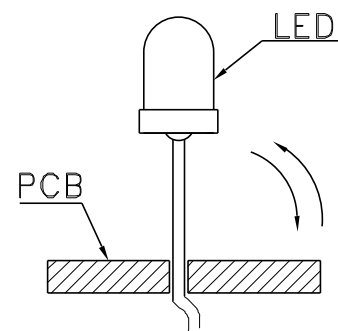

Fig. 8
- 5. Do not bend the leads more than twice. (Fig. 8)